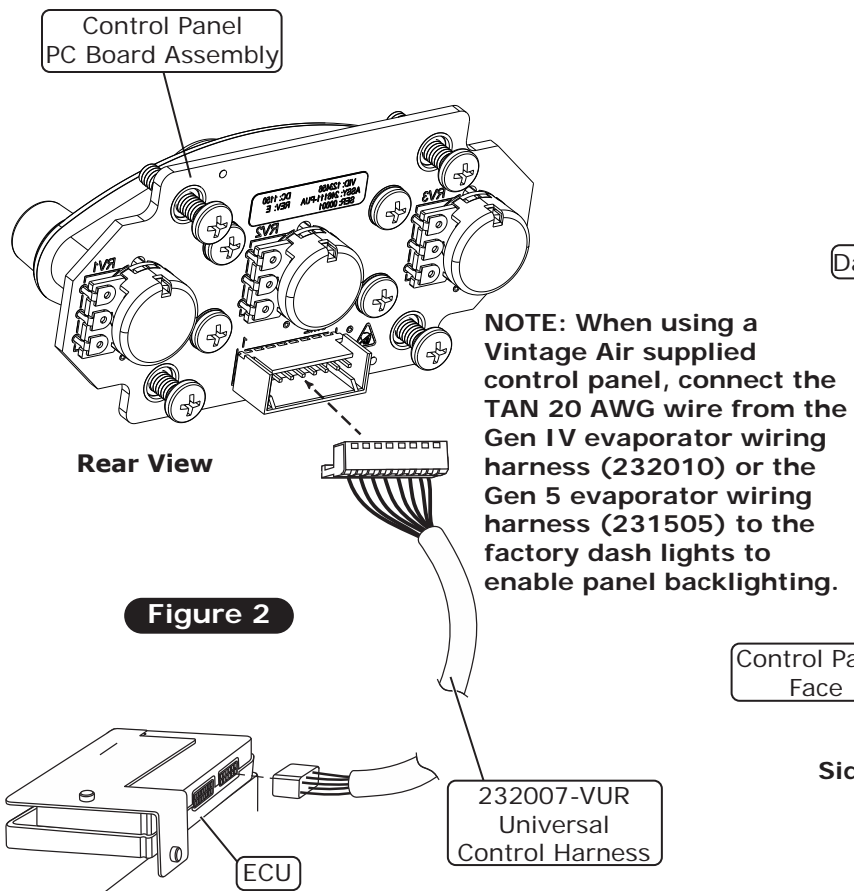

Figure 2
6. Plug the control panel wiring harness into the control panel and the ECU on the evaporator (See Figure 2, Page 5).